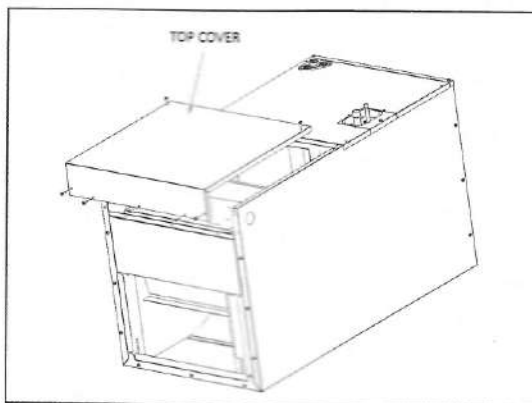

FIGURE 8: Remove The Top Cover
1. Tear down the seven bolts in the top cover, see in Figure 8.